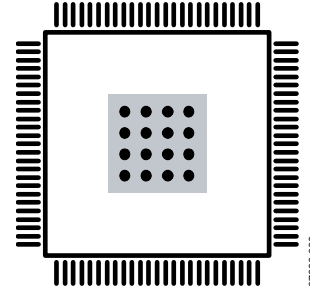

Figure 61. Exposed Pad Layout Example—Top View
- Vias should be placed to connect all layers of copper, allowing for efficient heat and energy conductivity. For an example, see Figure 61, which has 16 vias arranged in a 4 × 4 grid in the pad area.